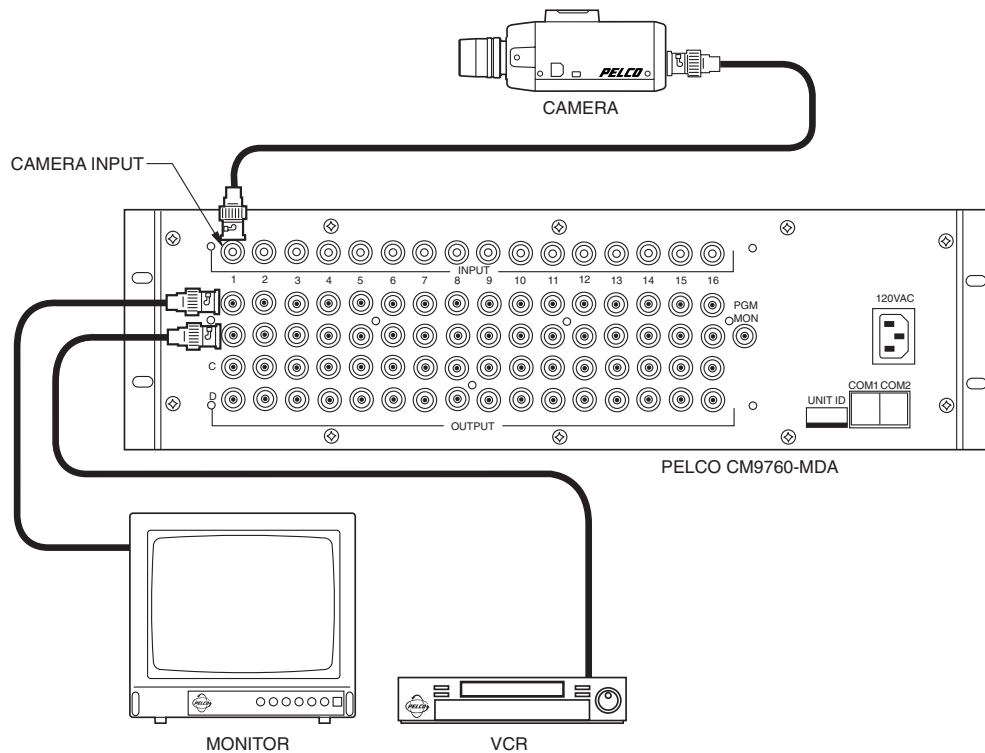

Figure 37. Simple System Configuration
- Figure 37 illustrates a simple system configuration of the MDA.